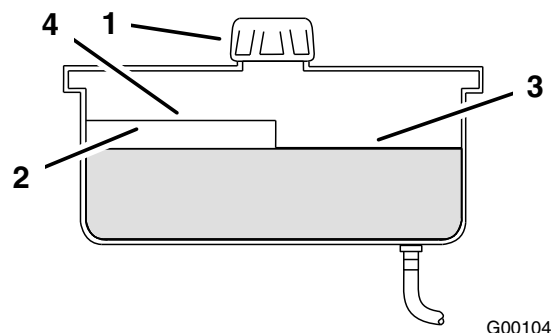

Figure 54
4. Clean area around cap and filler neck of hydraulic tank (Figure 54).
5. Remove cap from filler neck. Look inside to check the fluid level in the reservoir. (Figure 54).
Note: The fluid level should be to the top of the hot level of the baffle, when the fluid is warm (Figure 54).